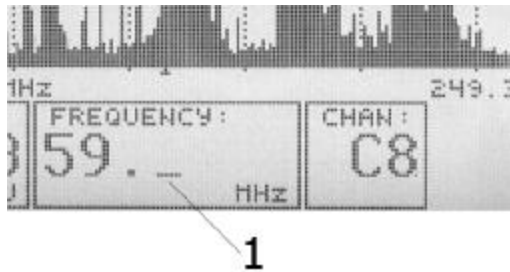

Figure 4.5
You can enter frequency using numerical keys only when the "Frequency" menu is displayed and "START" or "C.FR." parameters have been selected. To start entering the frequency value press one of the numeric keys. The frequency is displayed in MHz. If you need to set the frequency accurate to kHz, after you have entered the integral part of the value enter the decimal point "." and then the value in kHz by numeric keys. The position of the number to be entered will be indicated as an underline character (Fig. 4.5). If you entered a wrong number and want to delete it press "_" key. This will backspace the last entered number. To abort from this mode without saving the entered frequency press "Esc". To complete the setting and save the frequency press "Enter" or "↵".
You can enter frequency using numerical keys only when the "Frequency" menu is displayed and "START" or "C.FR." parameters have been selected. To start entering the frequency value press one of the numeric keys. The frequency is displayed in MHz. If you need to set the frequency accurate to kHz, after you have entered the integral part of the value enter the decimal point "." and then the value in kHz by numeric keys. The position of the number to be entered will be indicated as a underlined character (Fig. 4.5). If you entered a wrong number and want to delete it press "_" key. This will backspace the last entered number. To abort from this mode without saving the entered frequency press "Esc". To complete the setting and save the frequency press "Enter" or "↵".
You can enter frequency using numerical keys only when the "Frequency" menu is displayed and "START" or "C.FR." parameters have been selected. To start entering the frequency value press one of the numeric keys. The frequency is displayed in MHz. If you need to set the frequency accurate to kHz, after you have entered the integral part of the value enter the decimal point "." and then the value in kHz by numeric keys. Figure 4.5 shows the frequency entering screen view. The position of the number to be entered will be indicated as a underline character (pos. 1). If you entered a wrong number and want to delete it press "_" key. This will backspace the last entered number. To abort from this mode without saving the entered frequency press "Esc". To complete the setting and save the frequency press "Enter" or "↵".